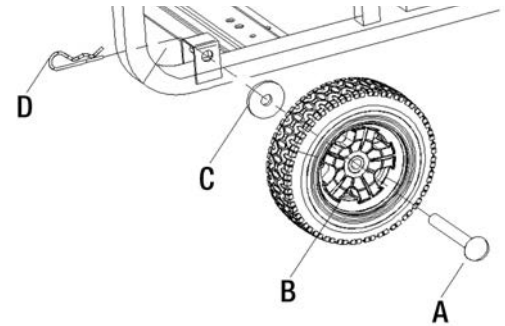

Figure 1
To install a wheel (B) Fig.1 to the right end of the frame, insert bolt (A) through the wheel, then slide washer (C) on opposite side of the wheel. Insert bolt through the mounting hole in the frame. Secure the wheel by inserting a retaining clip (D) into the hole in the end of the bolt. Repeat for the second wheel.